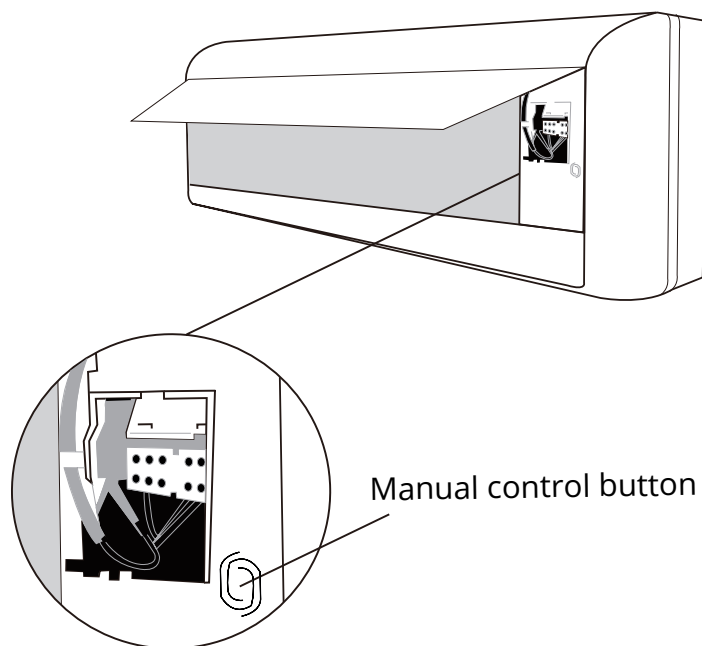

Fig. 9.1
2. The **MANUAL CONTROL** button is located on the right-hand side of the unit. Press it 2 times to select the COOL function. See **Fig 9.1**